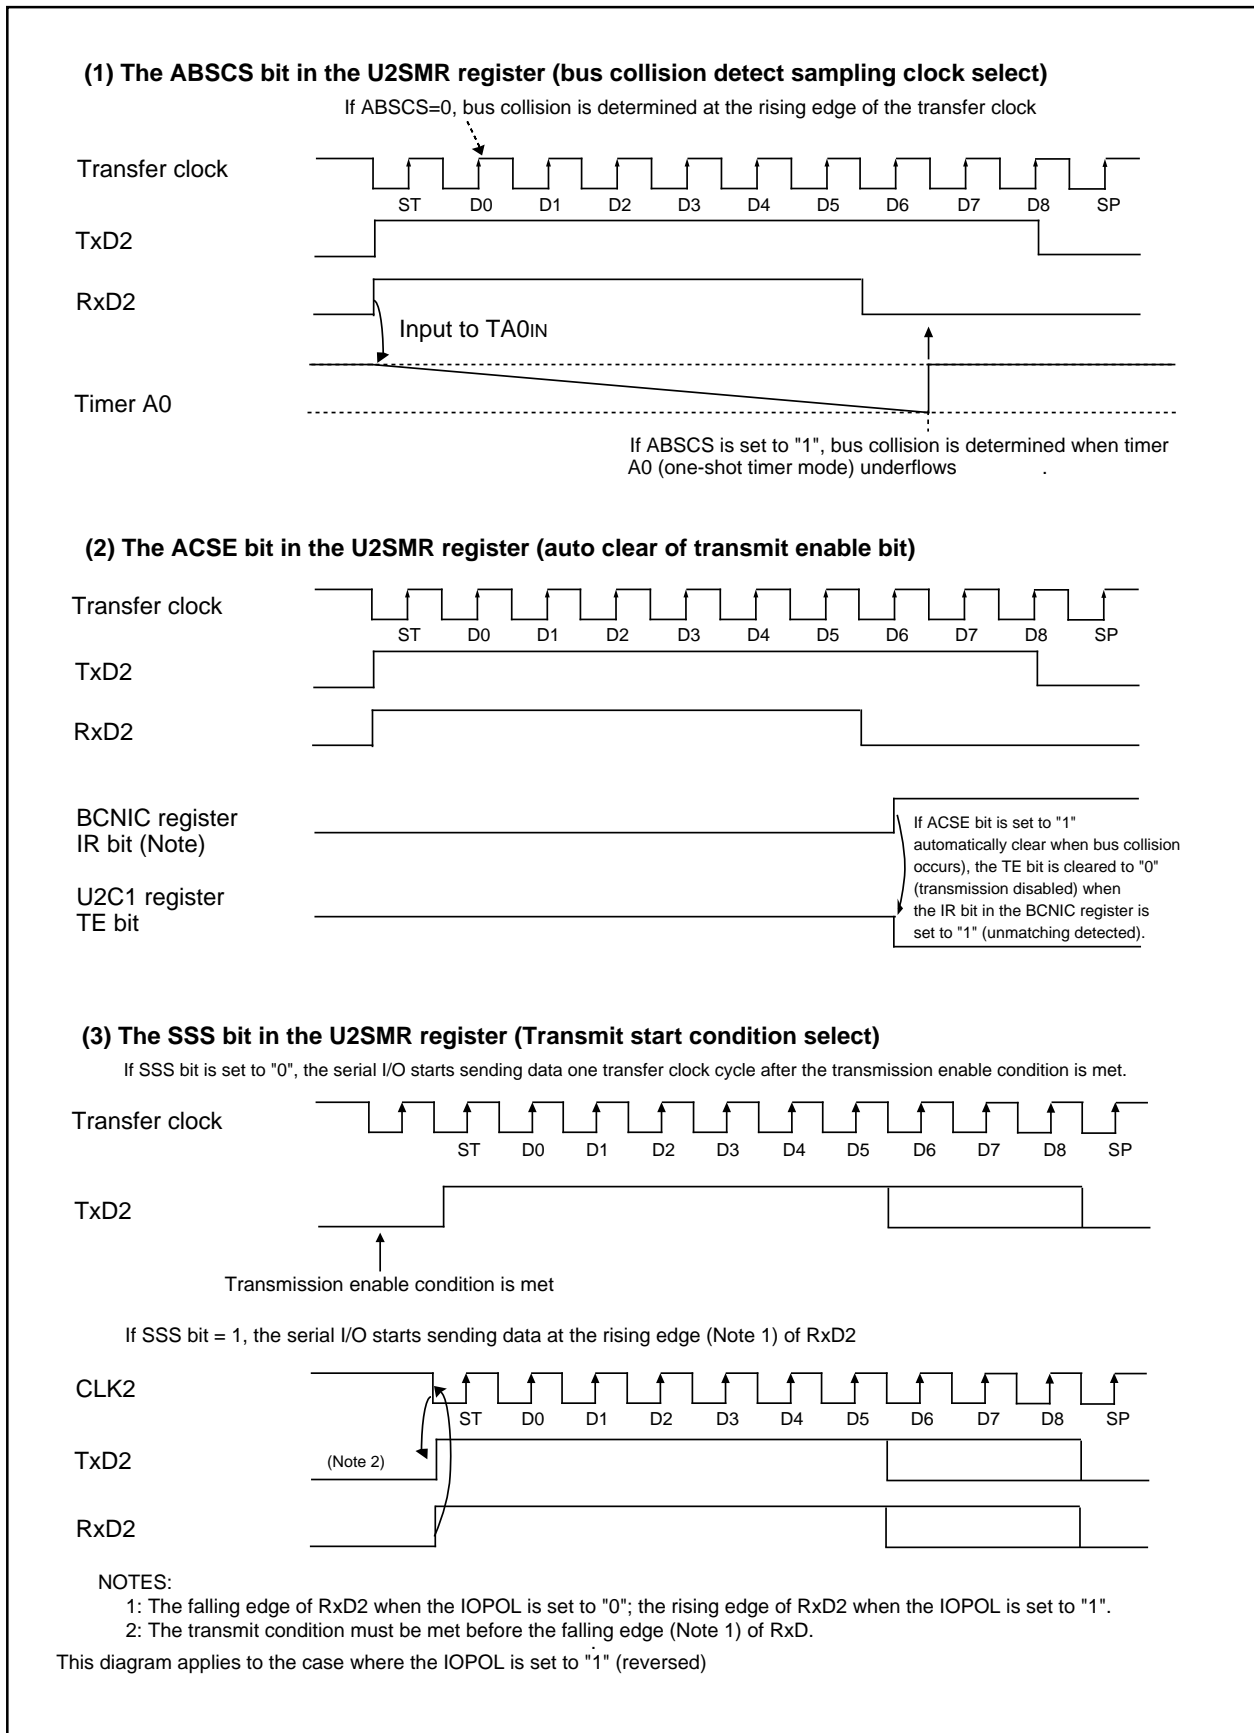

Figure 14.30 Bus Collision Detect Function-Related Bits
**Table 14.17** lists the registers used in IEBus mode and the register values set. **Figure 14.30** shows the functions of bus collision detect function related bits.